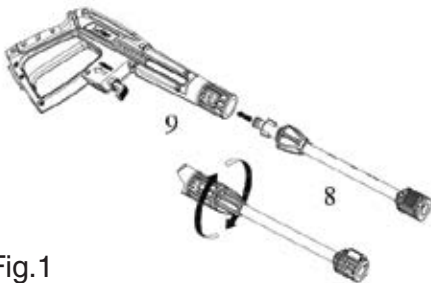

Fig.1
A, Insert the extension wand(8) into the gun(9). Push and turn the extension wand(8) clockwise onto the gun(9) until hand tight to lock it in place. When the pieces are joined properly, you cannot separate the two components by pulling straight out on the gun(9). Insert the detergent nozzle in the same manner, depending upon which attachment is best suited to the surface you are cleaning. Only one attachment can be inserted into the gun at a time. All attachments must be inserted into the gun for proper use.(Fig.1)